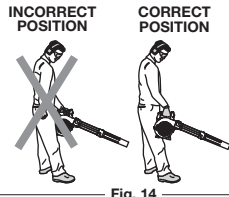

Fig. 14
**WARNING:** After starting the unit, always stand on the left side of the unit to operate it as shown in figure 14 to keep from blocking the air intake.
Hold the blower with the right hand. Do not stand on the right side of the blower when operating the unit (Fig. 14). If you do, you will be blocking the air intake and this will affect the unit's performance. Instead, be sure to stand on the left side of the unit to maximize the unit's efficiency (Fig. 14).